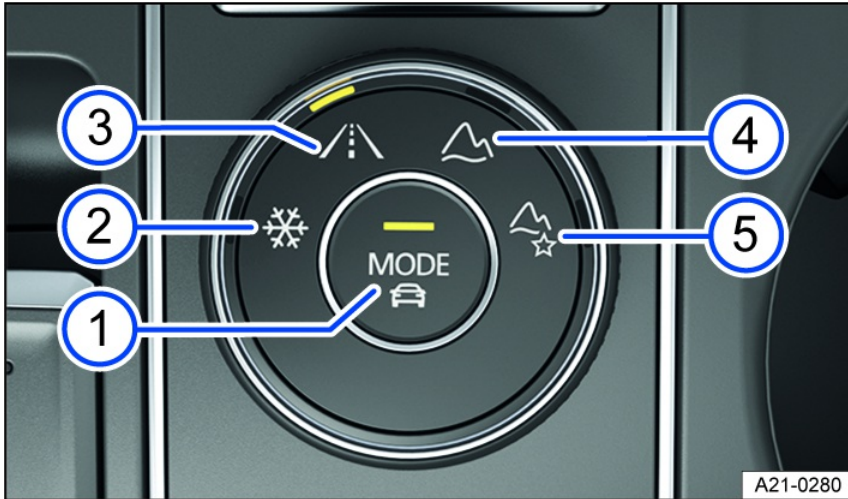

Fig. 119 In the center armrest: 4MOTION Active Control rotary switch.
1. Turn the dial until the LEDs next to the preferred driving mode comes on fig. 119.
2. To switch to the onroad driving modes, press the  button on the dial fig. 119 ① or tap **Onroad driving mode** in the Infotainment system.
Or: if the Offroad Custom driving mode is already selected, press  on the dial fig. 119 ①.